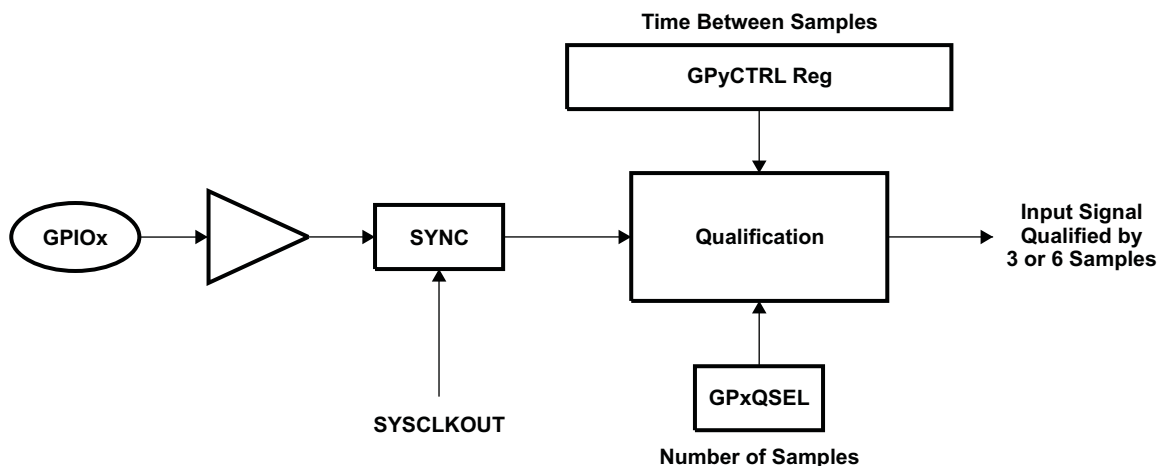

**Figure 6-19. Qualification Using Sampling Window**
- The sampling period is specified by the QUALPRD bits in the GPxCTRL register and is configurable in groups of 8 signals. It specifies a multiple of SYSCLKOUT cycles for sampling the input signal. The sampling window is either 3-samples or 6-samples wide and the output is only changed when all samples are the same (all 0s or all 1s) as shown in Figure 6-19 (for 6-sample mode).